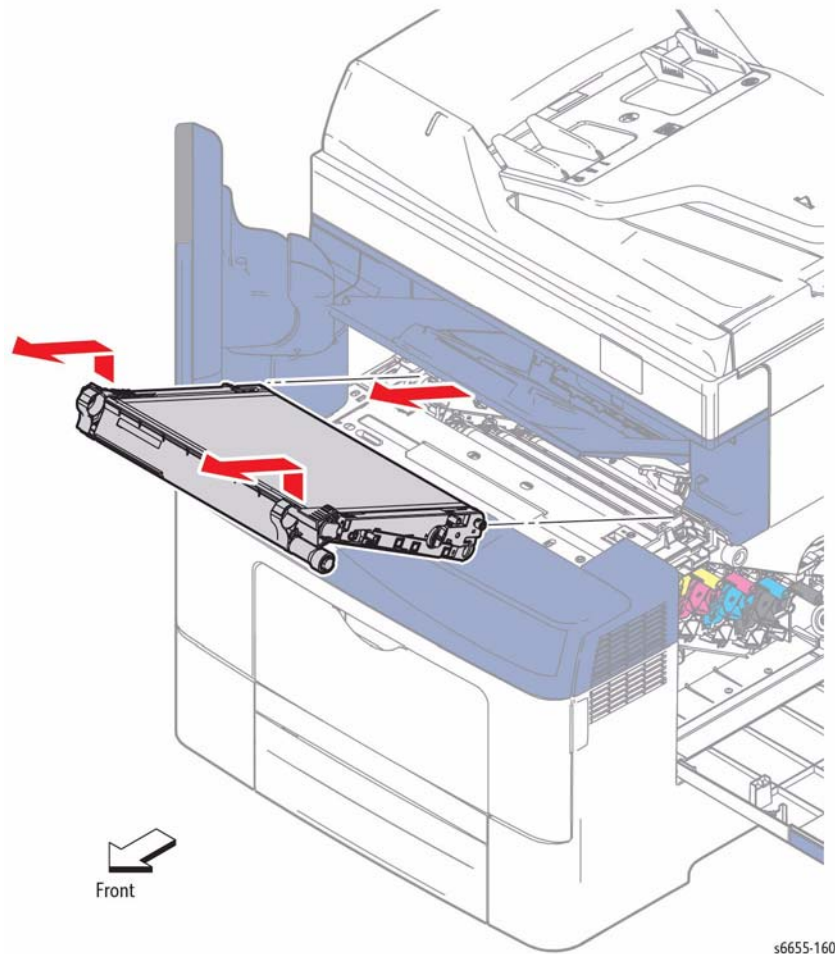

Figure 1 Remove the Transfer Belt Assembly
- Refer to Figure 1 to locate and lift the Transfer Belt Assembly by the handles on the left and right sides, and then pull it out to the front.